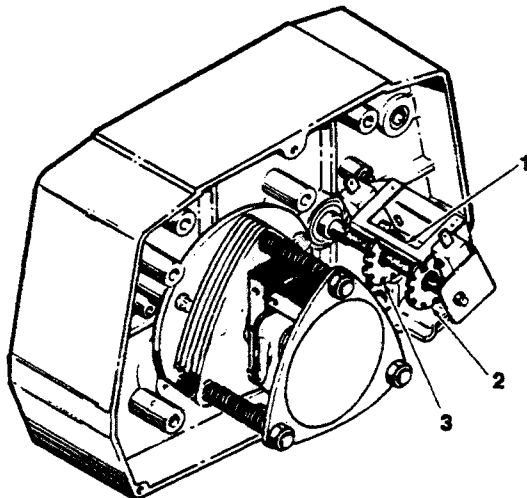

FIGURE 5-1. LIMIT SWITCH ADJUSTMENT
Limit switches are provided to protect the hoist against damage resulting from overtravel. For easy identification the upper (No. 2, Figure 5-1) and lower (No. 3, Figure 5-1) limit switch adjusting nuts are colored brass and zinc respectively. Each limit switch nut has ten slots for adjustment, and the increment of adjustment is such that one slot is equivalent to approximately $\frac{3}{4}$ " of hook travel. Care should be exercised when adjusting either limit of travel.
- 3) With a screwdriver, pry the spring guide plate (No. 1, Figure 5-1) out of the slots in the colored limit switch nuts (Nos. 2 and 3).
- 4) With a screwdriver, push the spring guide plate (1, Figure 5-1) out of the slots in the limit switch nuts. Turn the zinc slotted nut (3) back to about the center of the threaded screw. **DO NOT DISCONNECT THE WIRES FROM THE LIMIT SWITCHES.**
4) With a screwdriver, push the spring guide plate (1, Figure 5-1) out of the slots in the limit switch nuts. Turn the zinc slotted nut (3) back to about the center of the threaded screw. **DO NOT DISCONNECT THE WIRES FROM THE LIMIT SWITCHES.**